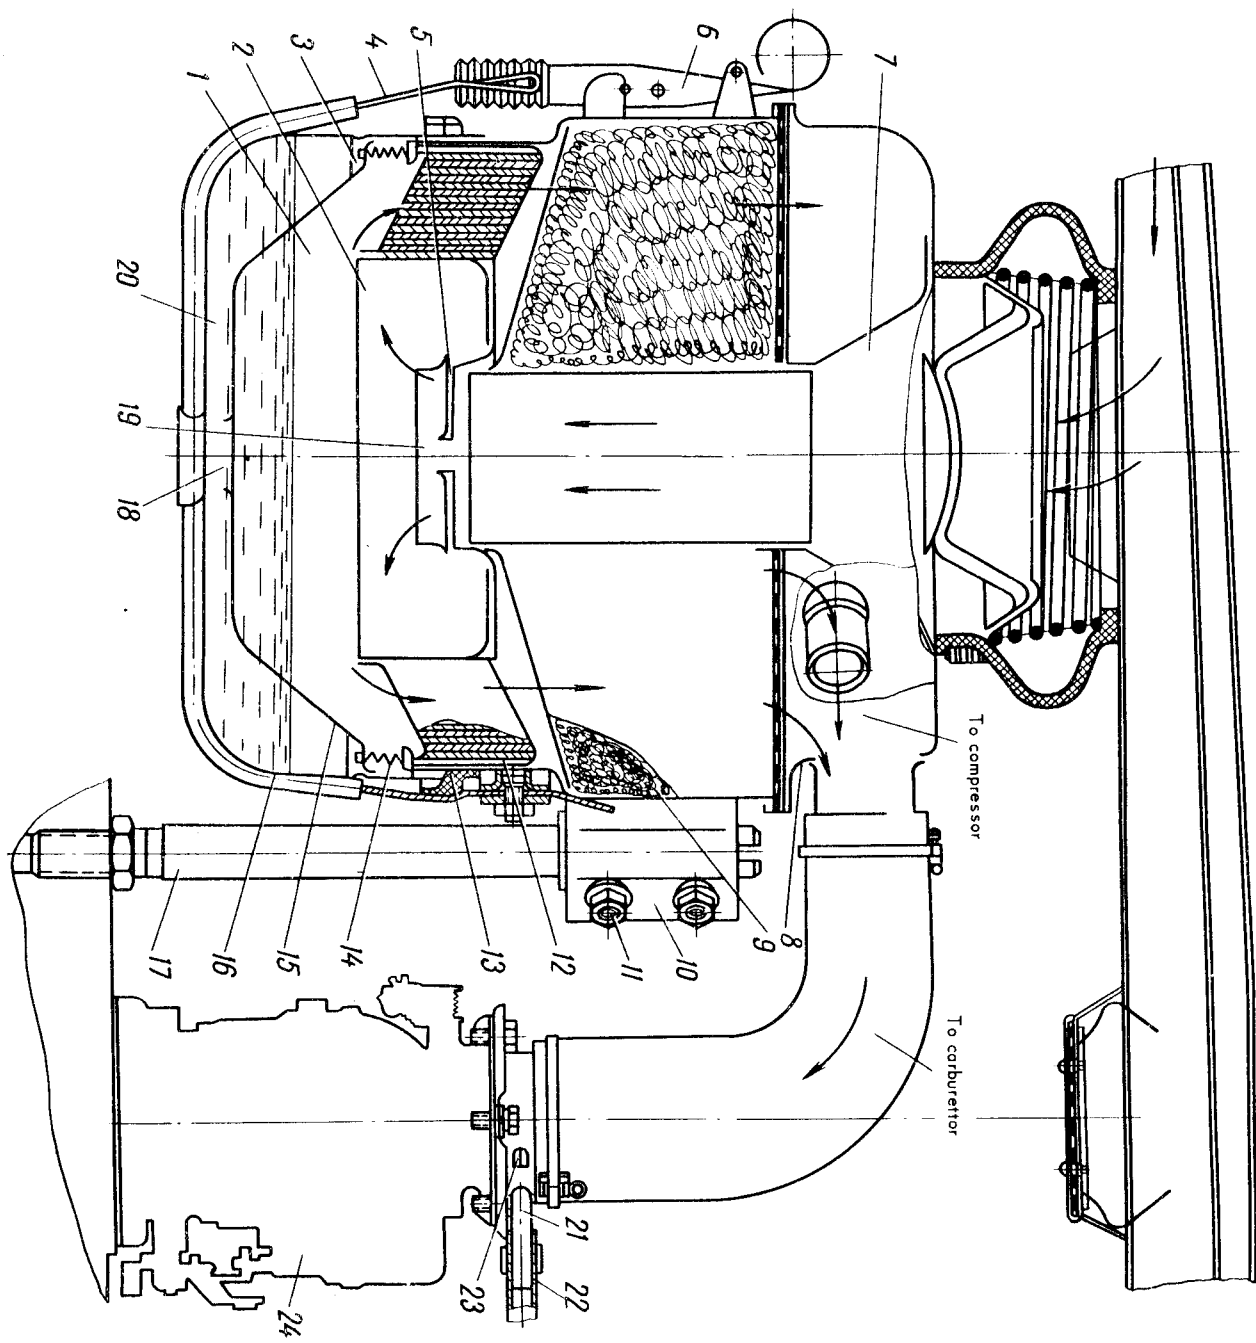

FIG.37. IBM-3 AIR CLEANER
1. Loosen the coupling bolts of brackets 10 (Fig.37) of the air cleaner.